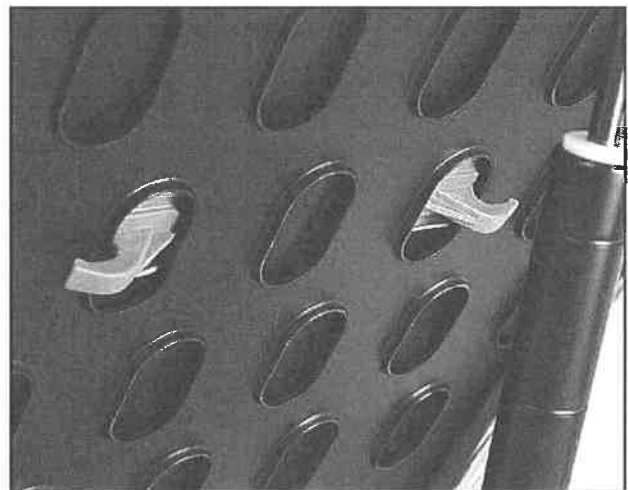

Figure 19 - Mattress Hooks Through Bed Surface
- **Mattress Options (4):** Mattress with 5 plastic hooks; mattress with hooks and transfer-board pocket; mattress with hooks, transfer-board pocket, and transfer board; mattress with hook-and-loop fastening strips.
- **To Attach:** Raise the backrest and/or shock frame as needed and either feed each hook through a hole in the bed surface (Figure 19) OR press the hook-and-loop surfaces together.